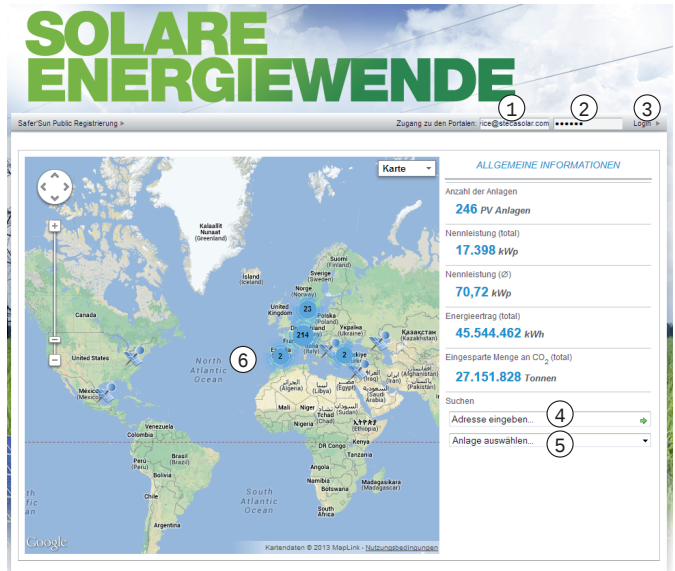

Fig. 21: Home page of the Internet portal
The email address can only be entered once and cannot be subsequently changed! The email address is also the user name; see also ① in Fig. 21.
- ⇒ The home page of the Internet portal as shown in Fig. 21.
2. ➤ The functions as per the legend shown in Fig. 21.